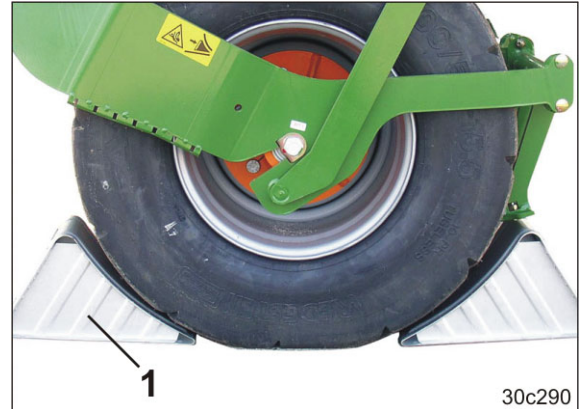

Fig. 113
7. Secure the Cirrus on each side of the machine by placing 2 wheel chocks each (Fig. 113/1) under the outer tapered ring tyres.